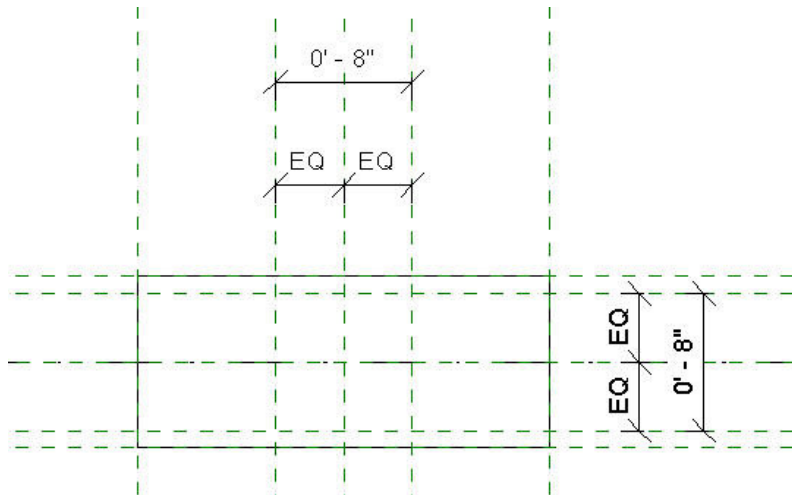

Figure 27: The Outlet Duct Sleeve Reference Planes and dimensions.
2. Using the techniques described previously, create the Reference Planes and dimensions shown in Figure 27. Keep a couple of things in mind: